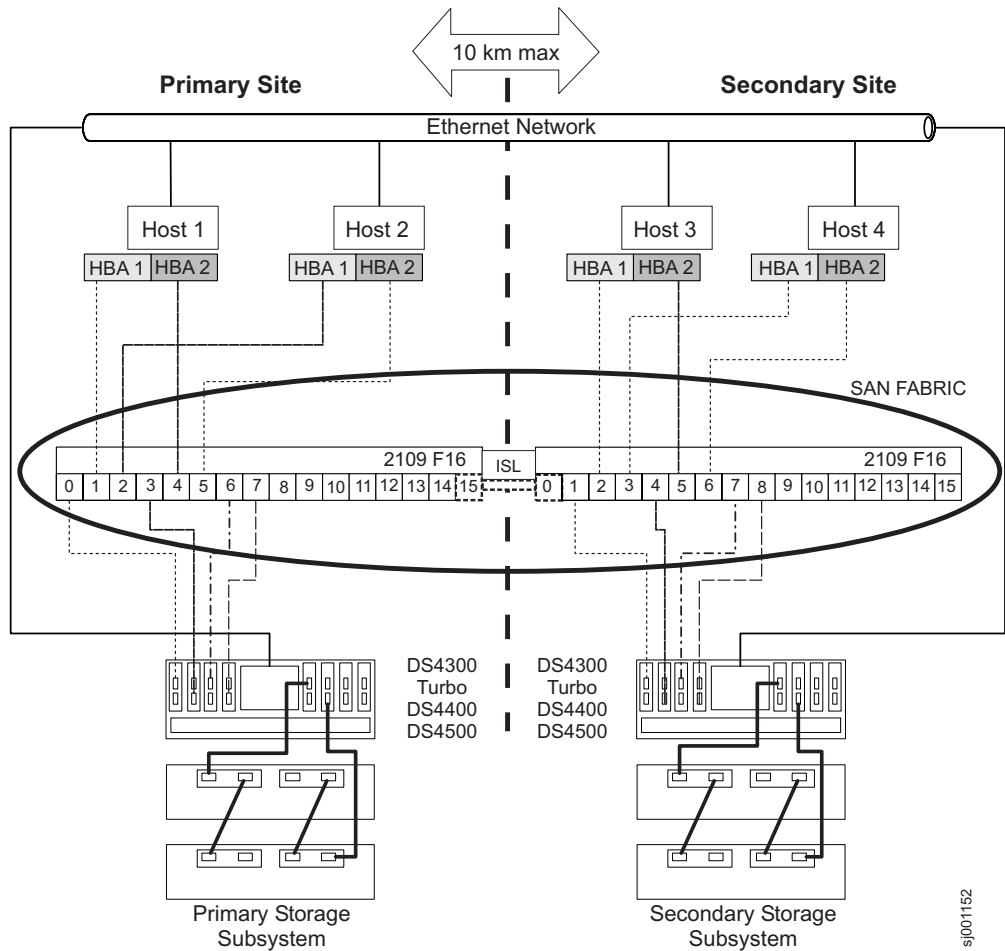

Figure 42. Campus configuration
The Campus configuration offers the same functionality as the Highest Availability Campus configuration, but contains only one switch at each site, rather than two. The configuration is still redundant for host bus adapters, controllers, and remote logical drive mirroring ports, but is a single point of failure for Fibre Channel switches. If a switch at either site fails, the Remote Mirror Option cannot function. For this reason, the Highest Availability Campus configuration is preferred for total environment redundancy. Figure 42 on page 124 shows the Campus configuration after installation is complete.
Important: The Fibre Channel switches in Figure 42 contain 16 ports each, which leaves many unused ports per switch. If you are performing switch zoning using the Fibre Channel host port number, instead of the WWNN of the SAN fabric logged-in ports, do not include Fibre Channel switch ports with no Fibre Channel connections in the zone definition. If you include these unused ports in your zones, unauthorized access to the SAN might result.
- Refer to Figure 42 on page 124 as you complete the steps in this procedure.